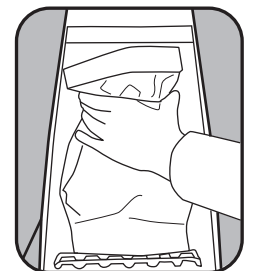

Fig. 2
2. Remove the bag from the bag holder by grasping the sides of the bag collar and pulling straight off. Attach a new vacuum bag by pushing the collar onto the inlet (Fig. 2).